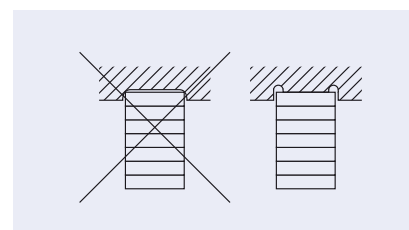

Fig. 57: Full-area contact of the actuator
- ▶ If the actuator is coupled in a milling pocket, make sure that there is full-area contact on the end surface of the actuator. For this purpose, select the dimensions of the milling pocket correspondingly or make free cuts in the milling pocket (fig. 57).